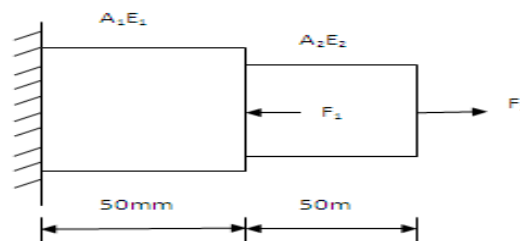

Fig.2
- (b) Using the direct stiffness method, determine the nodal displacements of stepped bar shown in Fig.2.